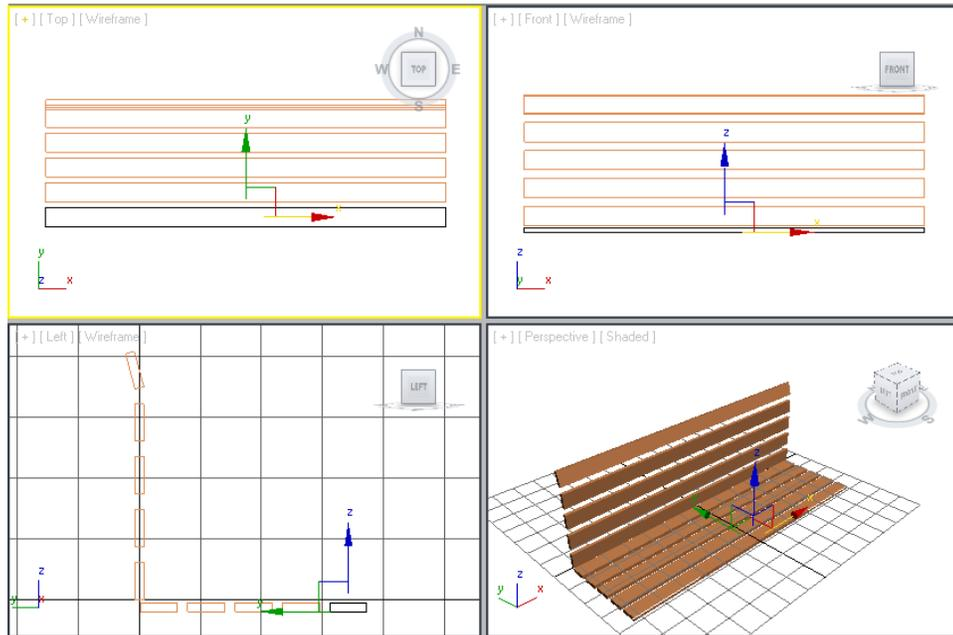

Figure 2-64 Horizontal seat supports displayed in viewports
- Choose the **Zoom Extents All** tool; all objects are displayed in all viewports, as shown in Figure 2-64.